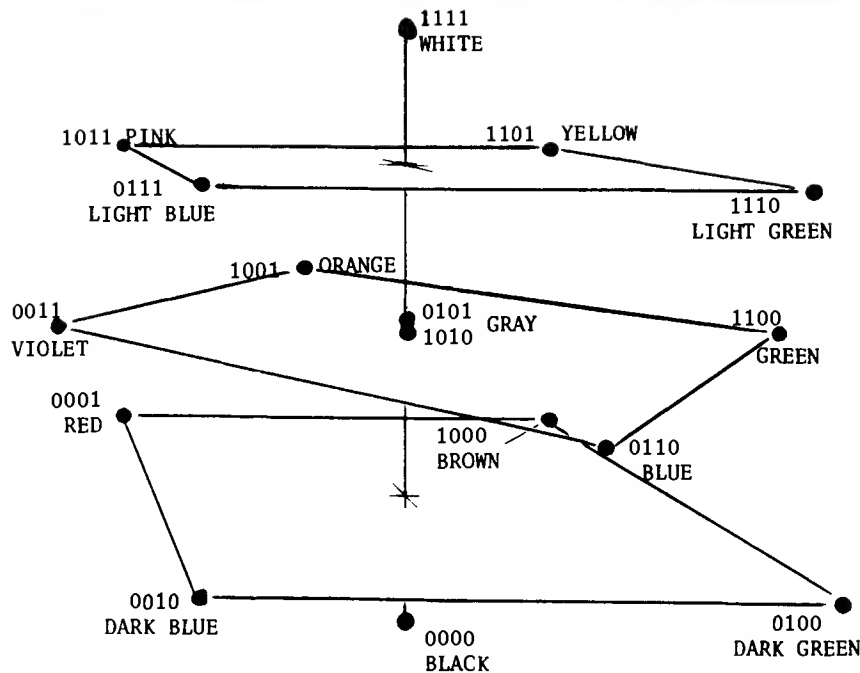

Figure 2.
A diagram representing the relations of all the colors is given in Figure 2. Each of the one, two and three bit numbers form planes, each corresponding to a color circle. One can think of these positions as points in space, with brightness increasing with vertical position and horizontal planes representing color circles of differing brightness.
2. A table of color numbers was made (DIM(16) in the program) so that color numbers near each other would correspond to colors that are near each other. The choice given in the program satisfies the following restrictions:
- a. Adjacent numbers are from adjacent planes in Figure 2.